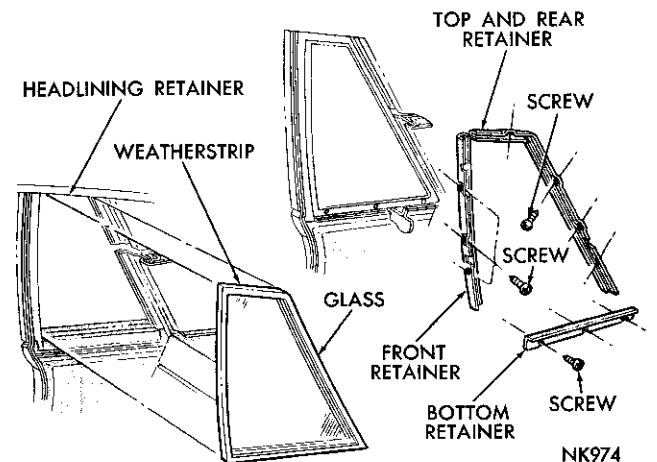

Fig. 73—Quarter Window (Stationary)
- (1) Remove the garnish mouldings at the quarter window.
- (2) Remove the screws attaching the front retainer (Fig. 73) to the window opening and remove the retainer.
- (3) Remove the screws attaching the top and rear retainer to the window opening and remove the retainer.
- (4) Remove the belt retainer screws and retainer.
- (5) From outside the vehicle, apply pressure to the lower portion and force the glass and weatherstrip out of the opening.